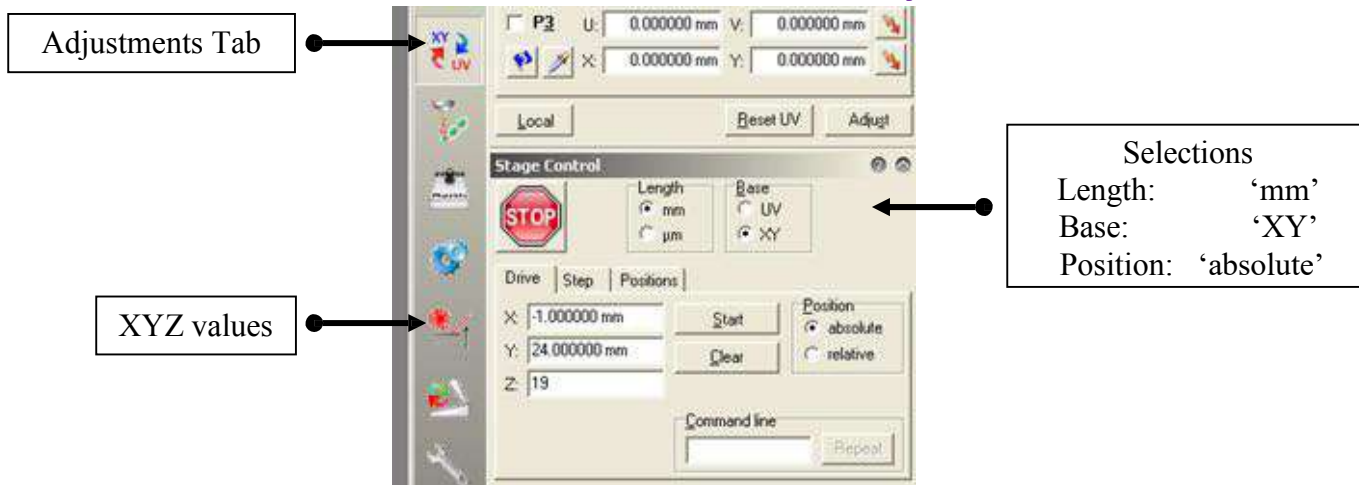

Figure 12 Raising stage and driving to sample position using Stage Control
10. After loading the sample holder, the stage should be raised to $Z = 19$ mm as shown in Fig. 12. To drive to your chip, you may either (i) input the XY co-ordinates if known, or (ii) navigate using the joystick. In addition, make sure the **mm**, **XY**, and **absolute** dialog buttons are selected as shown.